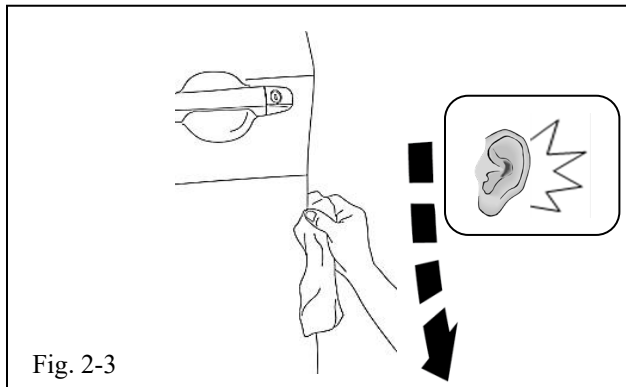
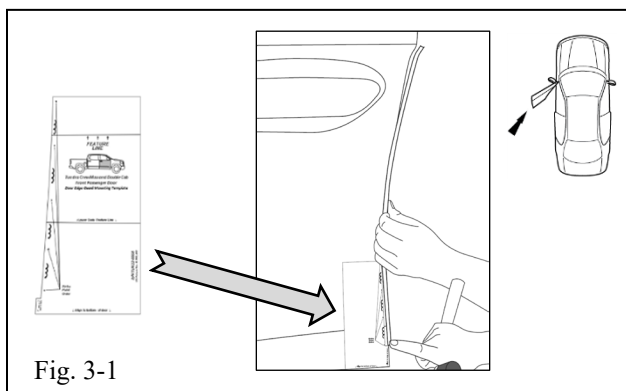

Fig. 2-3
Fig. 3-1
- (c) Dry all door edges with a new towel. Rotate towel after each wipe. Use one towel per door (Fig 2-3).
- (1) Wipe until a squeak is heard from the door.
- (b) Clean template and template contact area (Fig 3-1).